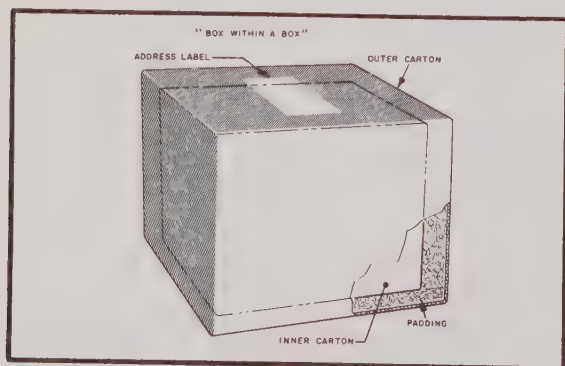

Figure 2-1
2. Pack the pen motor in containers using the "box within a box" (Figure 2-1) procedure.